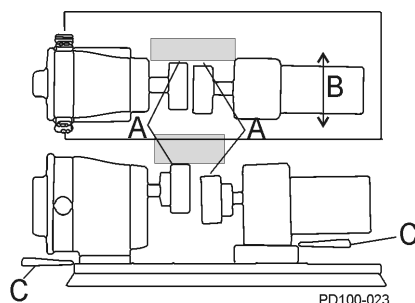

Figure 21 - Check Parallel Alignment
2. Using a feeler gauge at location "A" in Figure 21, determine the direction and amount of movement needed (Figure 21, item B).